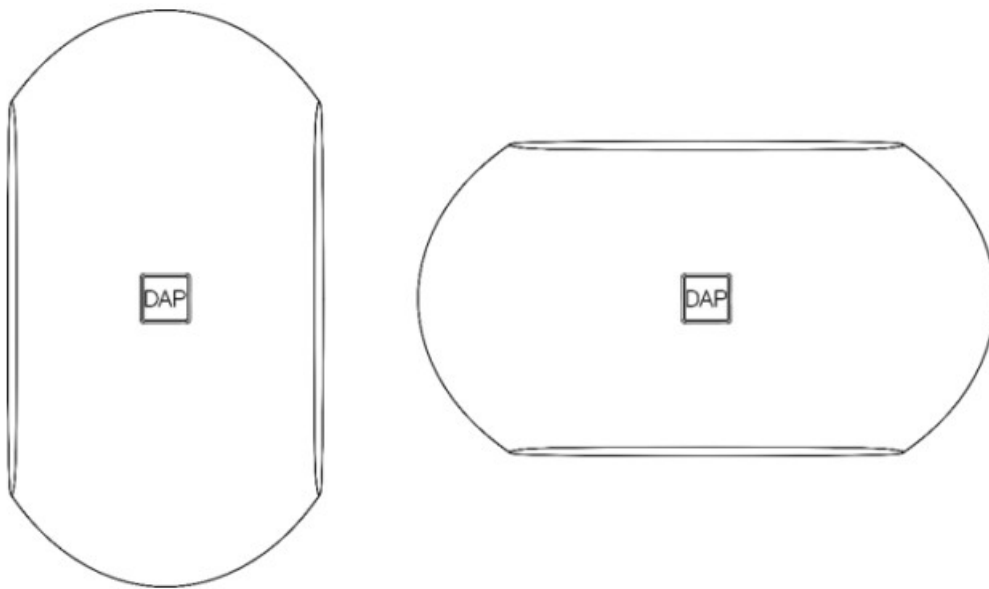

Fig. 21
4. Rotate the ball-joint (11) to set the device in a vertical or horizontal orientation (Fig. 21). The ball-joint rotation range is 90°.